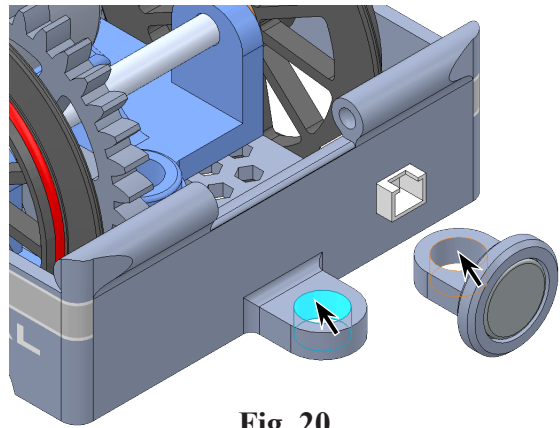

Fig. 20
Step 2. Click a **cylindrical face of pin hole in Chassis hitch** and **cylindrical face in hole in Coupler Lug**, **Fig. 20**.